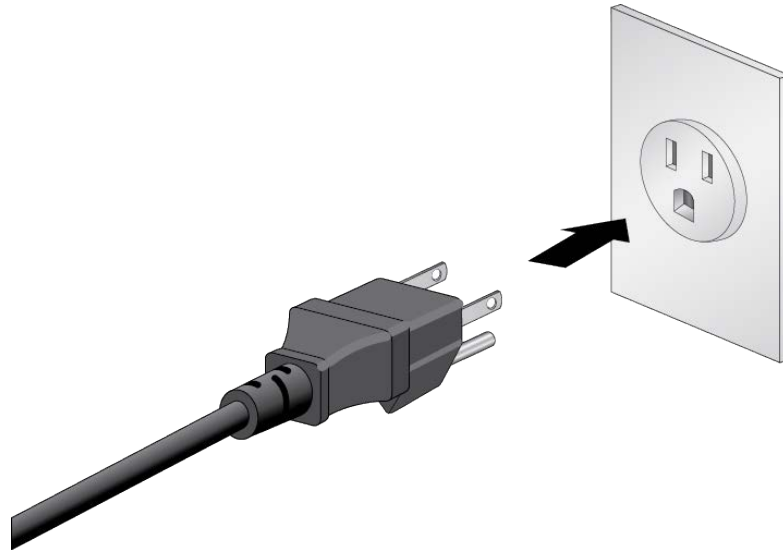

Figure 127. Connecting the Power Cord to an AC Power Source
3. Connect the power cord to an appropriate AC power source. Refer to Figure 127.